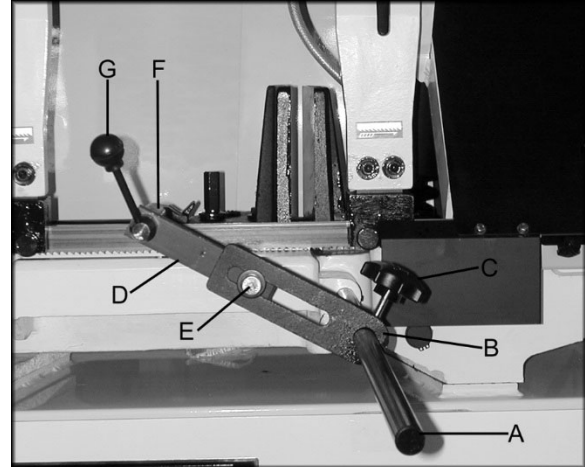

Figure 2
1. Insert stop rod (A, Figure 2) into the base below the vise. Place stop bracket (B) onto stop rod and tighten lock knob (C). Attach the connecting plate (D) to stop bracket with hex cap bolt and washer (E), and tighten. Attach the work stop (F) to the connecting plate with lock handle (G), and tighten.